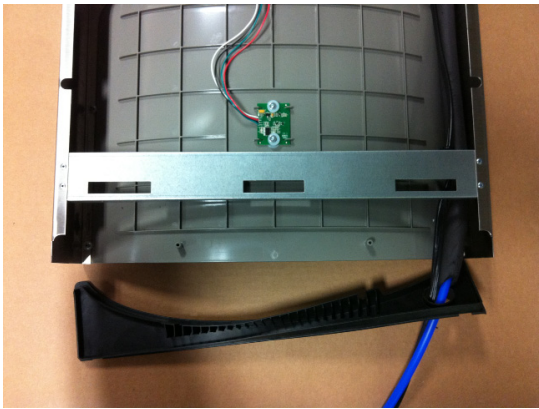

Fig. 10
- 7) Feed power cord & 3/8" water line through hole in tower/basin gasket (See Fig 10).